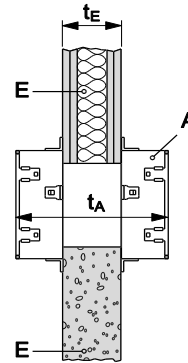

Figure 1: both sides
The penetration seal depth is approximately 260/310mm (t_A) comprised by a wall/floor of at least 100/150 mm (t_E) and two times the thickness of the Hilti Cable Collar (A), as displayed in (see Figure 1)